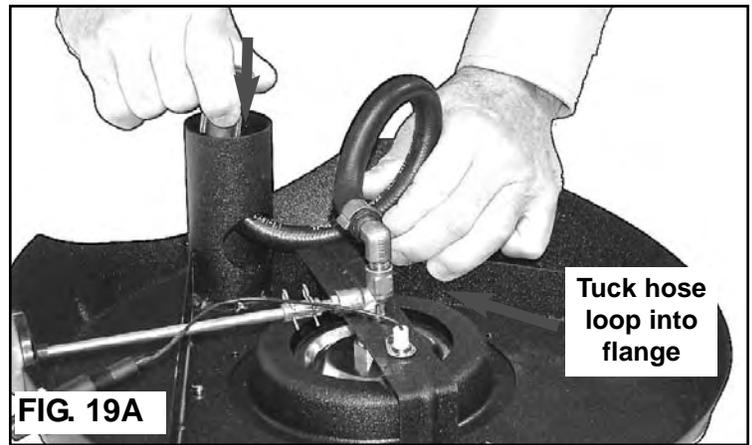

FIG. 19A
- a) Install the Side Burner Cover on the Side Burner Table. Remove the Side Burner Table or the Side Table. Turn the Side Burner upside down. Push the hose back down into the collar while pulling with the other hand. **(FIG. 19A)** Tuck the hose within the flange.